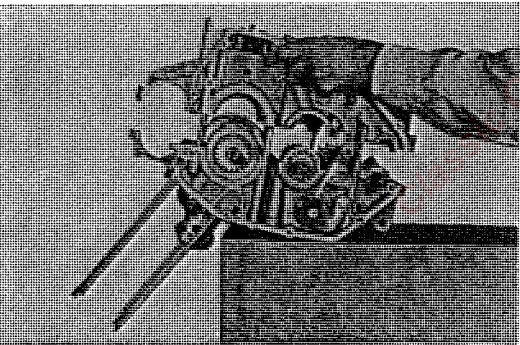

Fig. 3.89 Matching lower crankcase
1. The upper crankcase should be inverted and the crankshaft complete should be placed on it. Guide holes of bearings should be matched and the lower crankcase should be set on the assembly in the reverse order of disassembly. (Refer to Fig. 3.89)